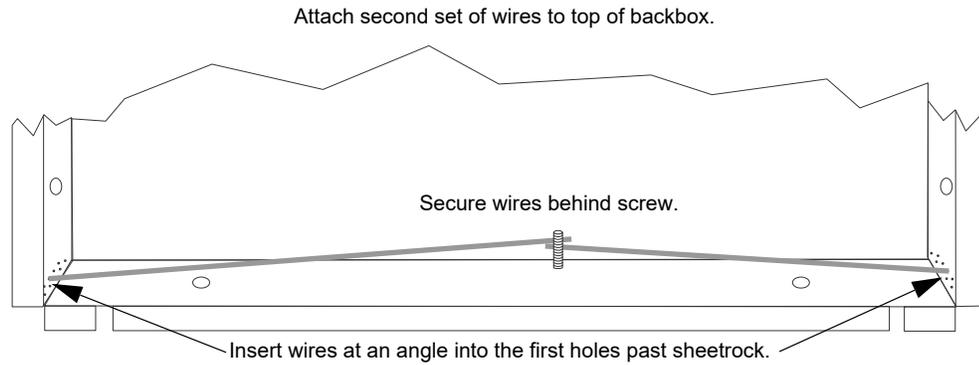

Figure 4.19 Flush Mounting the Backbox
3. Fit the annunciator backbox into the hole and stabilize with mounting wires. Angle the mounting wires into the first hole past the sheet rock. Secure the wires behind the screws as shown in Figure 4.19. When all four wires are in place, the backbox should fit snugly into the hole in the sheetrock.